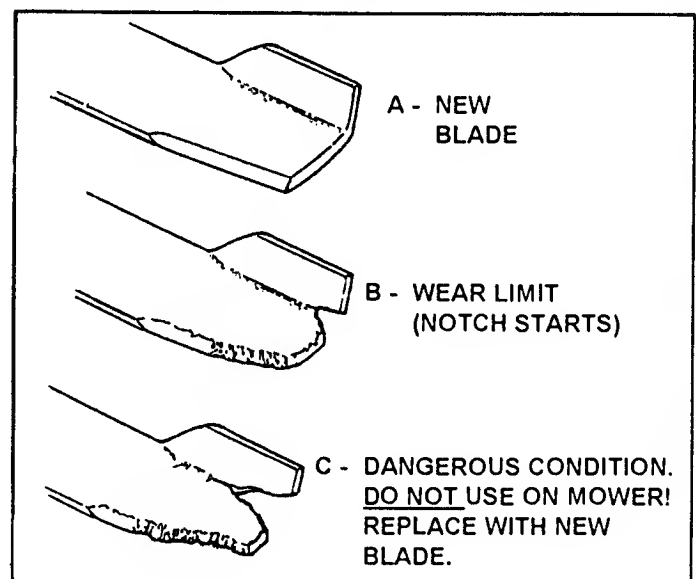

FIGURE 36
Check blades after each use for signs of excessive wear and damage. See Figure 36 for blade wear limits.
3. Clean and inspect each blade for excessive wear and damage. Refer to Figure 36 for blade wear limits.